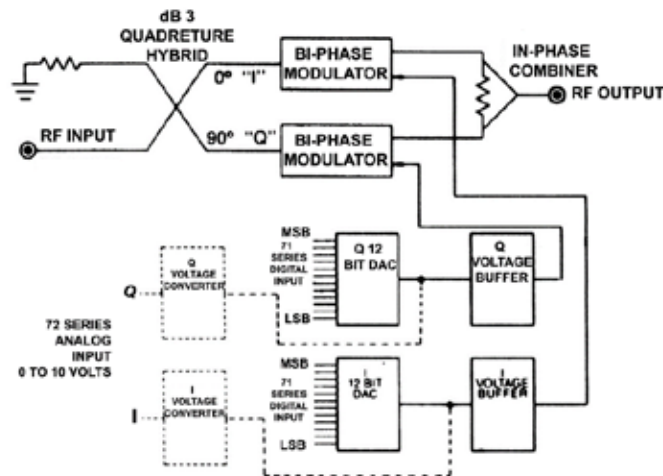
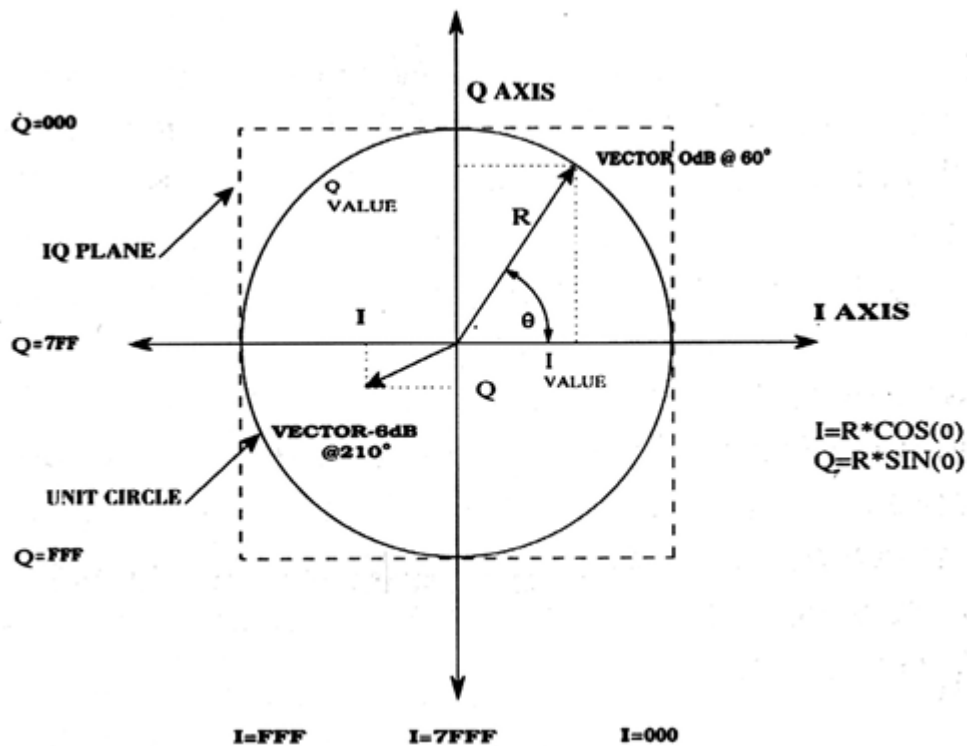

Figure 5: Series 71/71 Block Diagram
Figure 6: I-Q Vector Model
The block diagram of the I-Q vector modulator is shown in Figure 5. An RF signal incident on a 3 dB quadrature hybrid is divided into two equal outputs, with a 90-degree phase difference between them. The in-phase or 0-degree channel is designated as the I channel and the quadrature or 90-degree channel is designated as the Q channel. Each signal passes through a biphaser modulator, which selects the 0- or 180-degree state for both the I and the Q paths. This defines the quadrant in which the resultant output signal resides (Figure 6). The attenuator in each path then varies the magnitude of each of the signals, which are combined in phase to yield the resultant vector. This vector will lie anywhere within the bounded area shown in Figure 6. Thus, any signal applied to the I-Q vector modulator can be shifted in phase and adjusted in amplitude by assuming the desired attenuation level = x dB and the desired phase shift = θ degrees. The normalized output voltage magnitude is then given by:
3. The magnitude of the unit circle is determined by finding the maximum insertion loss at the calibration frequency in each of the four states in table 2 above. Since by nature the I-Q plane is a square and not a circle (see figure 6), the maximum insertion loss will occur at one of these four states. Once the maximum insertion loss is determined, the I or Q values of the other three states in table 2 are adjusted to meet the same maximum insertion loss level. Note that only either I or Q should be adjusted to increase insertion loss at any state, not both. The I or Q value that is initially set to 7FF (which is approximately the center of the IQ plane) is not varied during this part of the calibration since the amplitude of the unit circle is not affected by small changes in the control input.